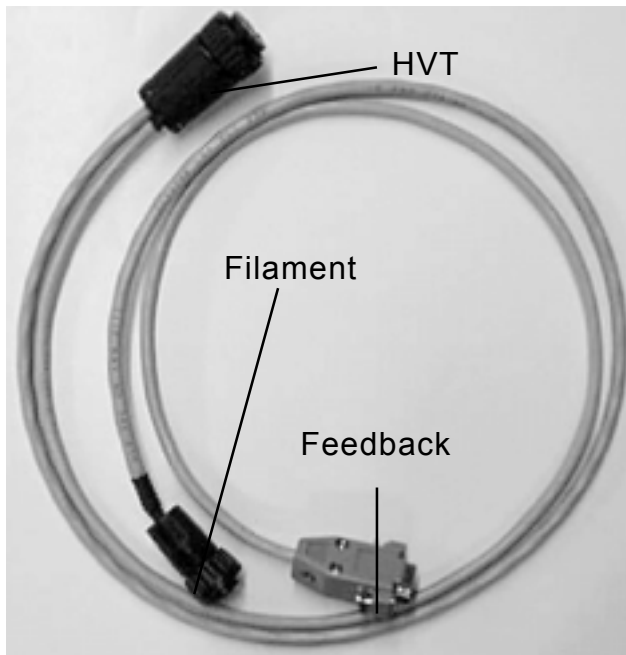

Figure 2-4 Interface Cable
The Interface Cable connects the HV Tank to the GCU. It consists of a 30" (80 cm) cable with a single connector on the HV Tank end and two (2) connectors on the GCU end. (Refer to Figure 2-4)